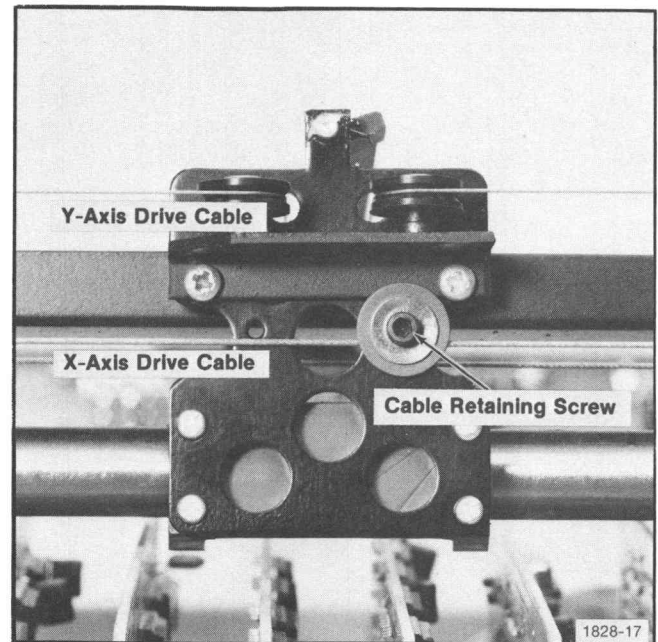

Fig. 3-17. Rear of pen carriage drive assembly.
3. The X axis cable should be disconnected from the single cable retaining screw on the rear end of the pen carriage (see Fig. 3-17). The retaining screw uses a 3/16-inch allen wrench.
7. There is a cable retaining screw on the back side of the pen carriage. See Fig. 3-17. Using a 3/16 inch allen wrench, loosen the retaining screw, place the X axis drive cable between the washer and the pen carriage, and tighten the cable retaining screw.
9. Plot a vertical line. If the line does not parallel the grid lines of the plotter paper (refer to Fig. 3-17), loosen the cable retaining screw on the rear of the plotter and move the pen carriage accordingly to obtain a vertical line. Tighten the cable retaining screw to secure the X axis drive cable after each adjustment. Repeat step 9 if necessary.